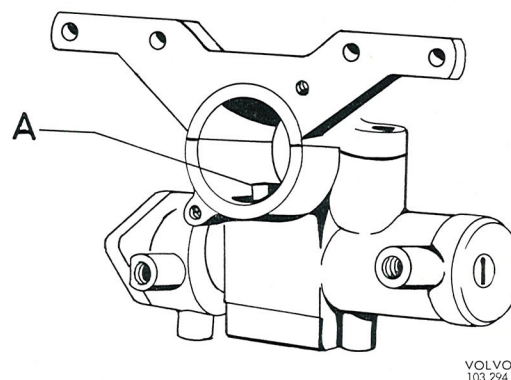

Fig. 6-34. Steering wheel lock
The engine of the vehicle has been made tamper-proof by the installation of a steering wheel lock (Fig. 6-34) which is integrally built with the ignition switch. The ignition switch has four positions, 0-I-II-III. Removing the ignition key, which can only take place when it is in position "0", releases a catch and lock pin (A) is pressed forwards by a spring. When the steering wheel is turned, so that a slot coincides with the lock pin, the lock pin enters the slot and locks the steering column so that the wheels cannot be turned. When the ignition key is inserted and switched to position "I", the lock pin is pulled back and this releases the steering column which is secured in a withdrawn position. At position "I" the vehicle can be moved with the ignition not on.